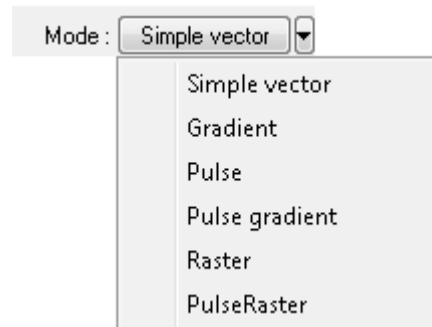

Fig. 12-39. Selecting the lithography mode
4. In the **Mode** drop-down list, select the desired mode of vector lithography (Fig. 12-39):